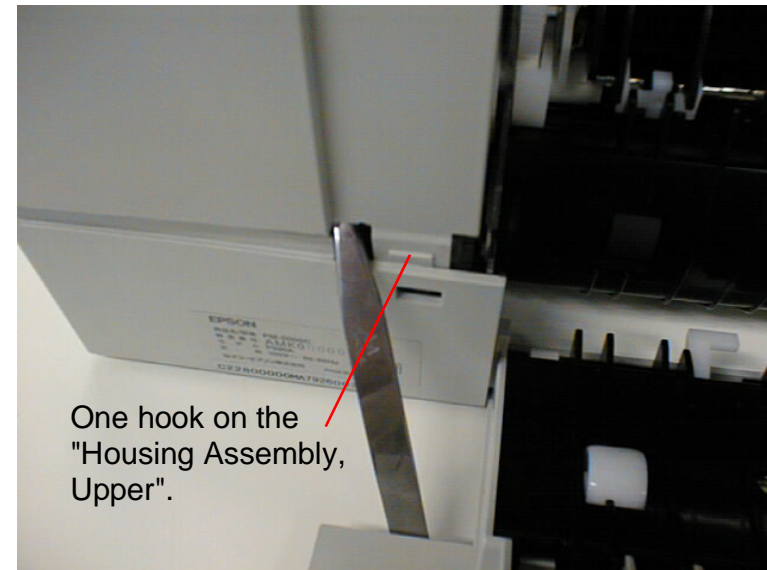

Figure 4-7. One hook at back of the printer
7. Release one hook connecting with "Housing Lower" at the rear side of "Housing Assembly, Upper". (Refer to Figure4-7)